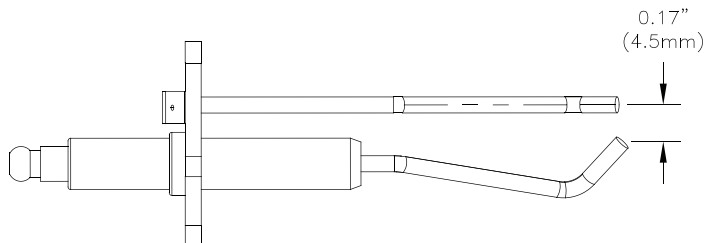

Figure 46: Igniter Electrode Gap
3. Remove the igniter assembly and flame sensor and inspect them for oxide deposits. Clean the oxide deposits from the igniter electrodes and flame sensor rod with steel wool. Do not use sandpaper for the cleaning. Inspect the ceramic insulators for cracks and replace the igniter assembly and/or flame sensor if necessary. Check the igniter electrode spacing gap. Refer to Figure 46 "Igniter Electrode Gap" for details.